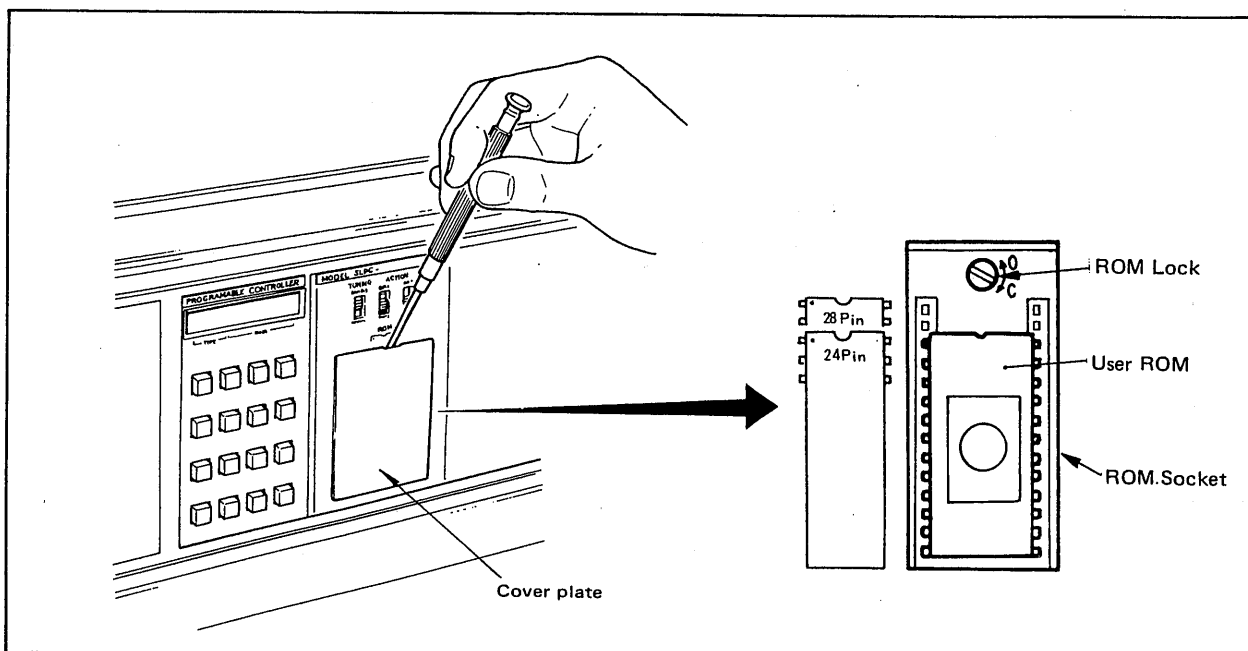

Figure 6-3-7. Removing Tuning Panel Cover Plate and ROM.
(1) Removing User ROM
- b. Remove the tuning panel cover plate; User ROM will be exposed. (See Figure 6-3-7.)